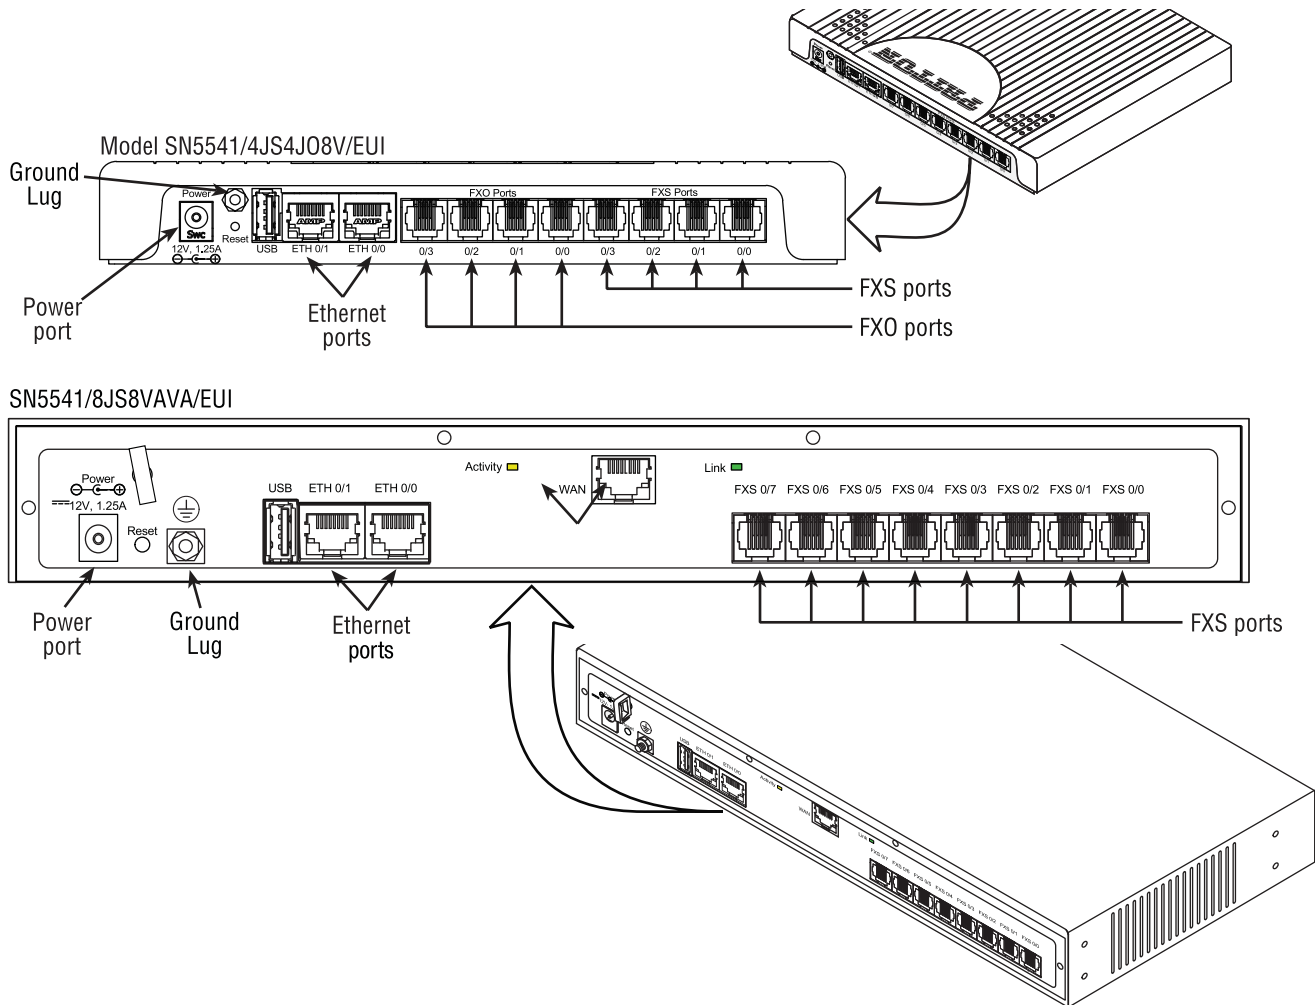
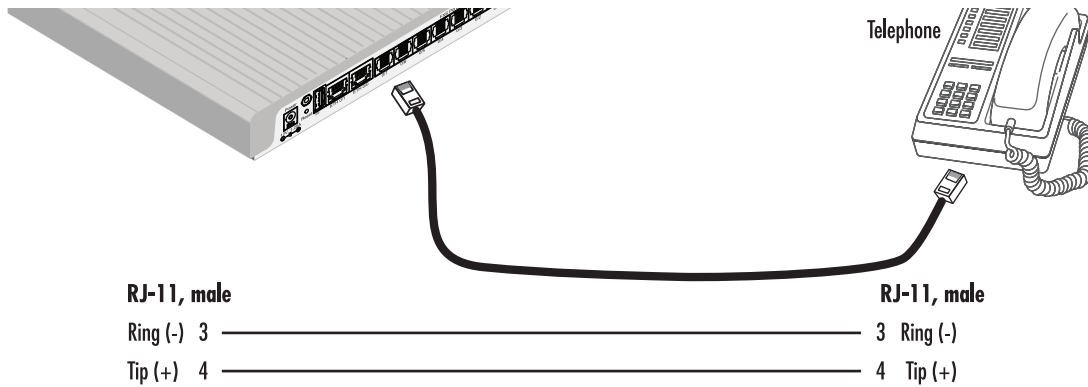
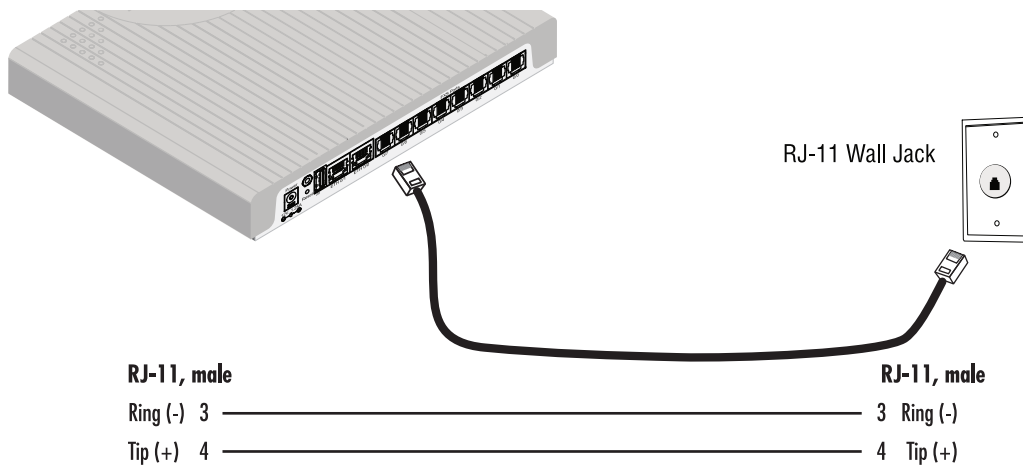

Figure 9. Rear view showing location of Ethernet, FXS, FXO and WAN connectors (SmartNode 5541 shown))
Figure 10. Analog FXS connection
Figure 11. Analog FXO connection
According to UL60950/IEC62368, a connection to earth ground—using the ground lug at the rear of the units (see figure 9)—is required to protect against power cross.
2. Connect the grounding wire to the ground lug of the SmartNode device (see figure 9).
The SmartNode comes with at least two FXS analog ports (see figure 9 on page 35) located on the back of the device. Some Models have FXO ports as well, with equal number of ports as for FXS. The FXS interfaces are connected to analog devices via cables (see figure 10) terminated with RJ-11 connectors (see section “Analog FXS” on page 61), while the same type of cable and pinout is being used to connect a POTS line to the FXO ports of the SmartNode (see figure 11).